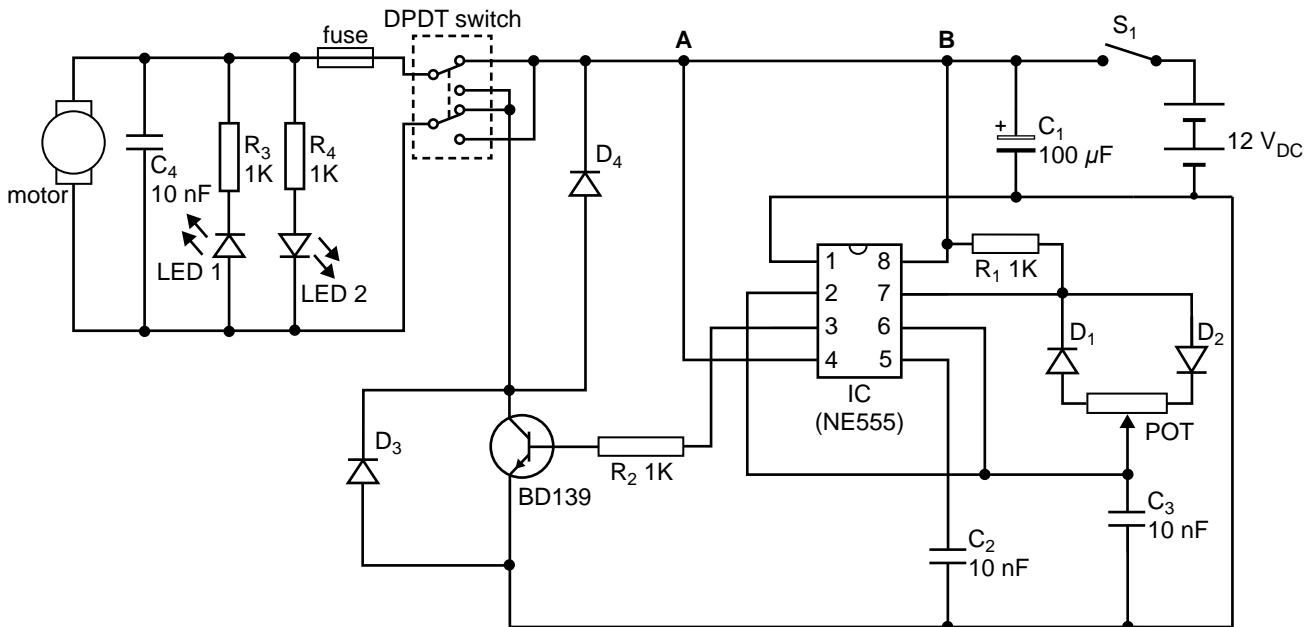

Figure 5
In a different design, a 12 V_{DC} motor and an electronic speed controller are used. The circuit diagram for the speed controller is given in Figure 5 below.
On Figure 5 above, draw an arrow between points A and B to show the direction of the conventional electric current when switch S₁ is closed.
Referring to Figure 5, what do the following stand for?
What is the function of the DPDT switch shown in Figure 5?
Referring to Figure 5, resistor R_1 has four colour bands with a tolerance of 5%.
Referring to Figure 5, calculate the voltage across resistor R_3 if the electric current through LED 1 is 10 mA.
What is the purpose of LED 1 and LED 2 shown in Figure 5?
A digital multimeter set on DC volts is used to measure the voltage across two selected pins of the IC shown in Figure 5.
- a. Referring to Figure 5, if LED 1 was not working, what would be two possible faults, apart from the LED being faulty? 2 marks
- b. Give two possible consequences if C_4 was short circuited in Figure 5. 2 marks
How could $50 \mu\text{F}$ or $200 \mu\text{F}$ capacitors be used to take the place of the $100 \mu\text{F}$ capacitor in Figure 5? Draw a circuit diagram and justify your choice by showing appropriate calculations.